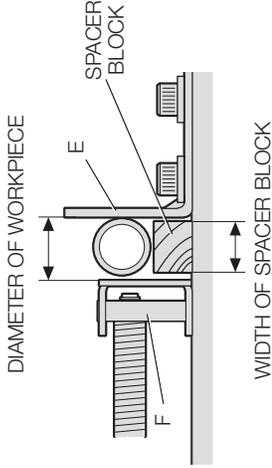

FIG. 2
- A spacer block slightly narrower than the workpiece can be used to increase wheel utilization (Fig. 2).